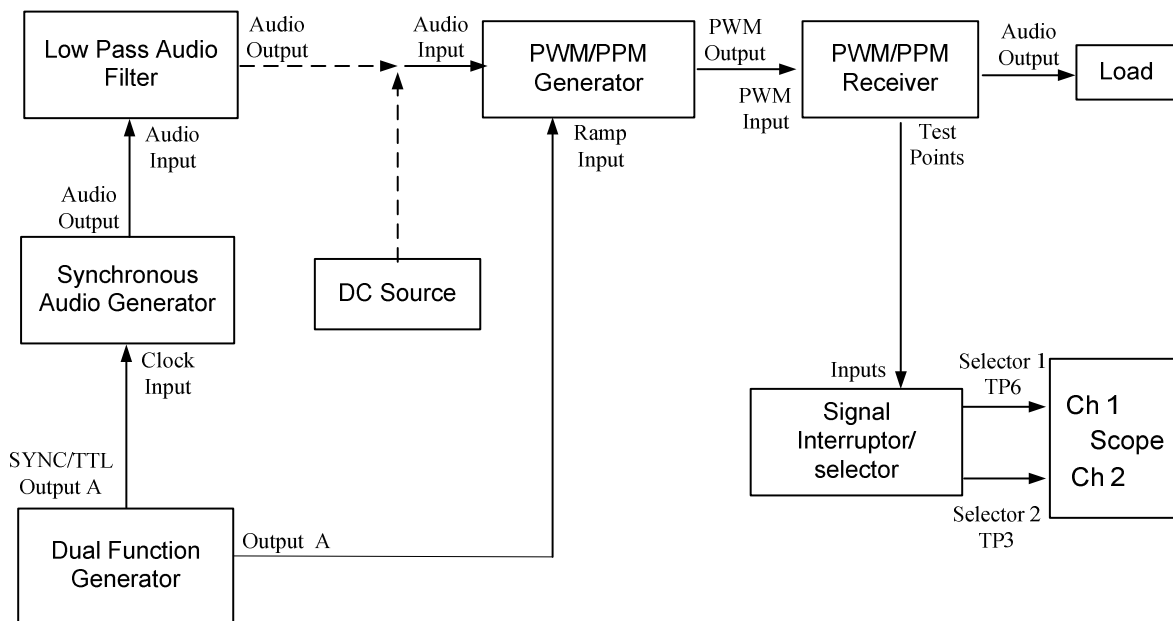

Figure 3 PWM System
Figures 3 and 4 show the block diagram of the setup for PWM and PPM respectively. The ramp signal (sawtooth wave) is provided by channel A of the Dual Function Generator. The Synchronous Audio Generator and the Low Pass Audio Filter provide the Sine wave message signal. These signals are applied to the inputs of the PWM/PPM Generator. The PWM/PPM Receiver is used to reconstruct the message signal. In order to transmit DC levels, the output of the PWM/PPM Receiver must be DC-coupled.
- Use the PWM system shown in figure 3 and connect audio output of the Low Pass filter to the Audio input of the PWM/PPM.